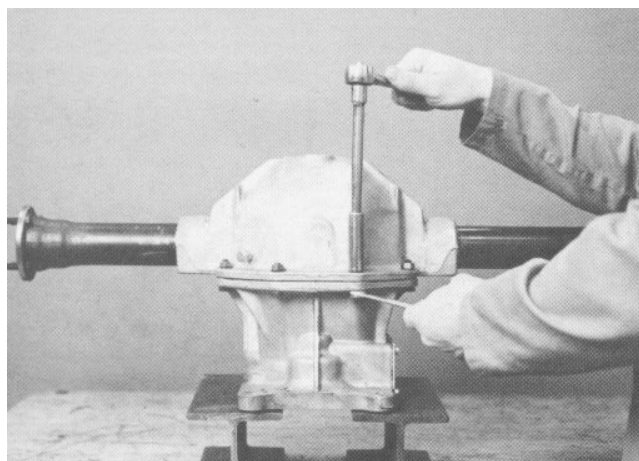

Figure 19
Remove the eight (8) housing cap screws and separate the upper and lower axle housings (Fig. 19). Clean the gasket material from the mating surfaces before reassembly.